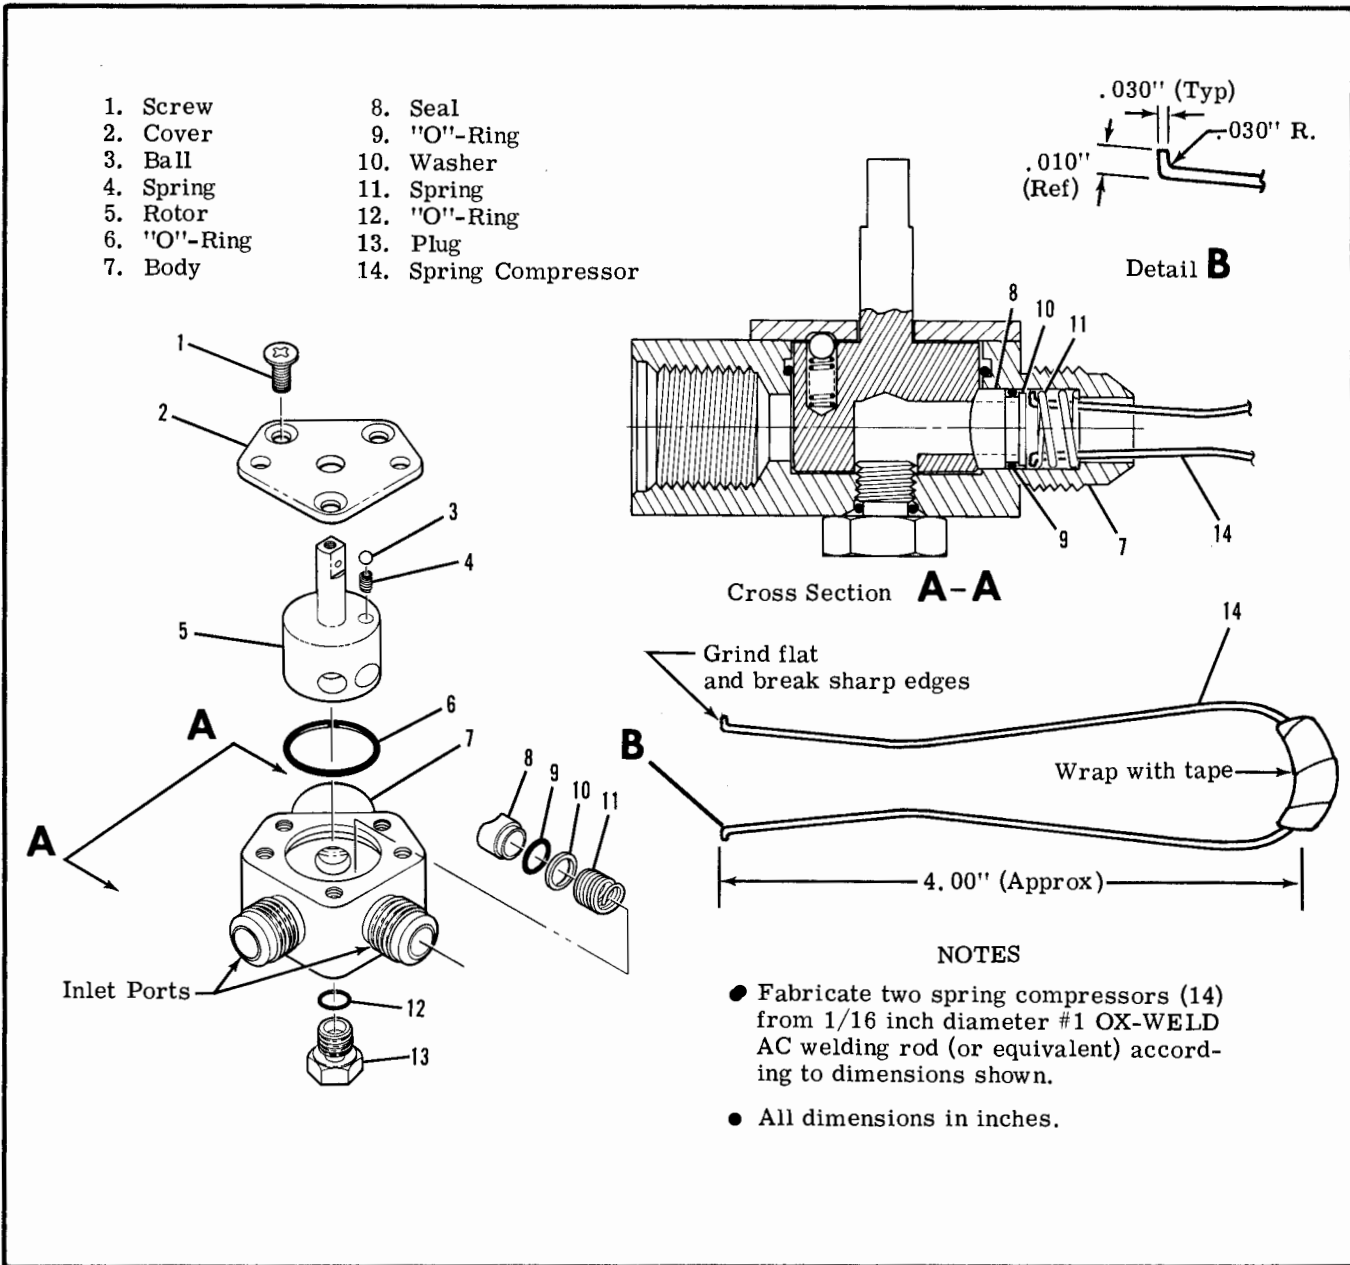

Figure 12-5. Fuel Selector Valve and Spring Compressor
12-12. FUEL SELECTOR VALVE. (Refer to figure 12-5.)
12-15. DISASSEMBLY. (Refer to figure 12-5)
12-16. REASSEMBLY. (Refer to figure 12-5)
- Reassembly of selector valve is facilitated by mounting in a bench vise or equivalent bench support, ensuring valve body (7) is protected from damage.
- Fabrication of spring compressor (14) (2 required) is recommended before reassembly.
- Always replace "O"-rings (6 and 9) anytime rotor (5) is removed from body.
- b. Insert springs (11) into inlet ports.
- c. Insert new "O"-ring (6) into recess at top of valve body (7).
- d. With spring compressors (14) in place as shown in section A-A of figure 12-5, compress springs (11) and install washers (10), new "O"-rings (9), seals (8) into inlet ports.
- d. Holding springs compressed, carefully insert rotor (5) into valve body (7). Release spring compressors and check for proper seating of seals to rotor.
- e. Lubricate spring (4) and ball (3) with lubricant conforming to Military Specification VV-P-236 (USP Petrolatum or equivalent), inserting spring into hole in top of rotor.
- f. Place ball on spring and turn rotor as required to index one of the detent holes in cover (2).
- g. Attach cover (2) and test rotation of rotor shaft for ease of operation and positive detent engagement.
- h. Replace plug (13) using new "O"-ring (12).